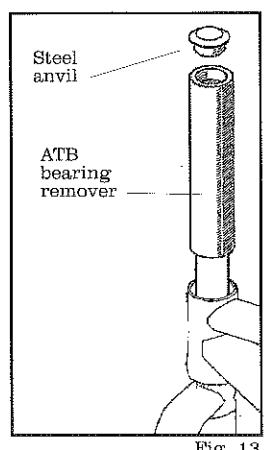

Fig. 13
9. With the fork resting in the headtube, slide the thin-walled end of the **ATB bearing remover** over the steerer (Fig. 13).